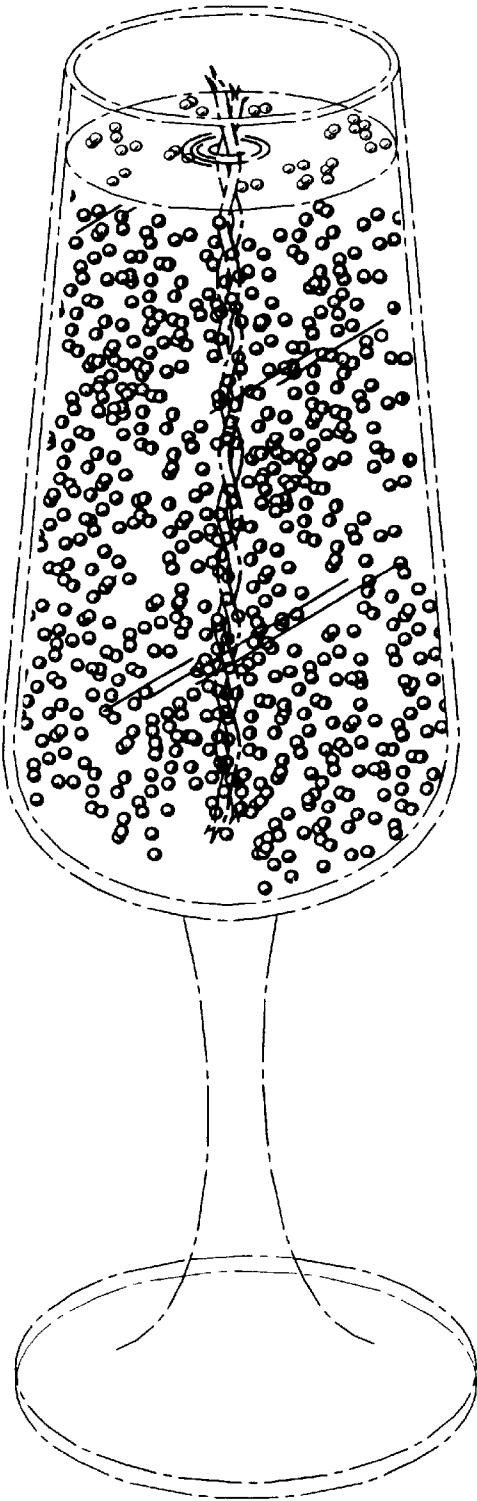
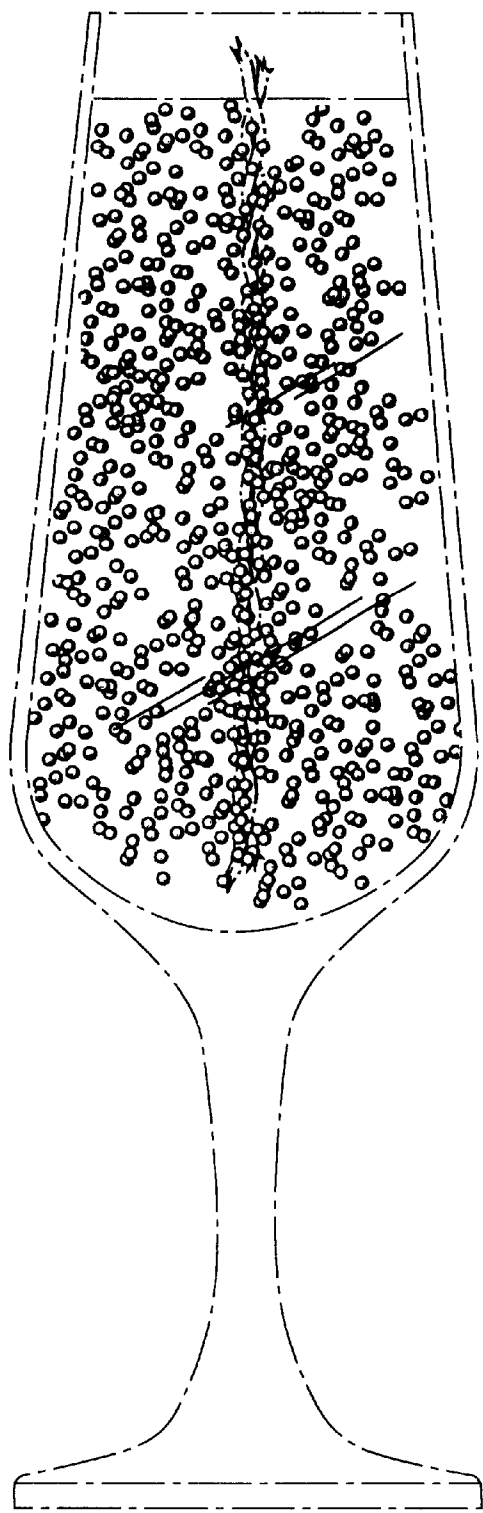
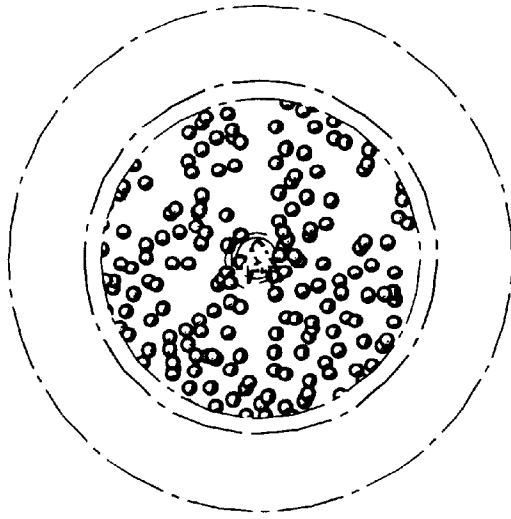
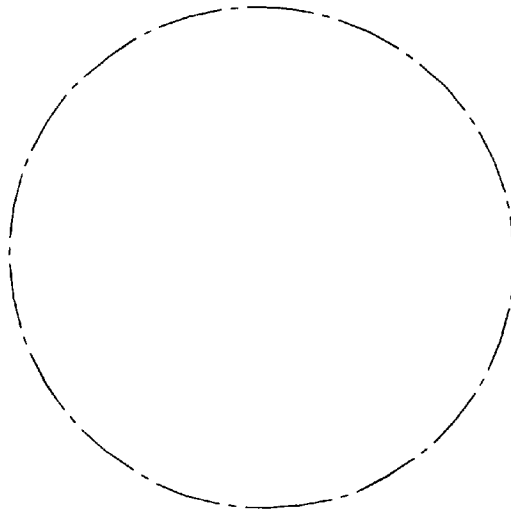

FIG. 1 (Amended)
FIG. 2 (Amended)
FIG. 3
FIG. 4 (Amended)
FIG. 1 is a perspective view of a first embodiment of a candle with bubbles showing our new design, wherein the candle simulates the appearance of a carbonated beverage in a drinking vessel;
FIG. 2 is a side elevational view of the candle with bubbles shown in FIG. 1, the other sides being identical;
FIG. 3 is a top plan view of the candle with bubbles shown in FIG. 1;
FIG. 4 is a bottom plan view of the candle with bubbles shown in FIG. 1;
*The broken lines showing in FIGS. 1–32 are for illustrative purposes and form no part of the claimed design.*